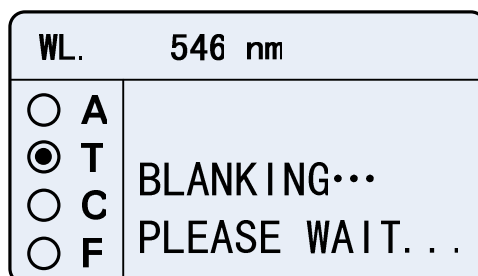

Fig. 4-5
- 3) Pull the Reference in the light path, press  to calibrate 100%T (Fig. 4-5);